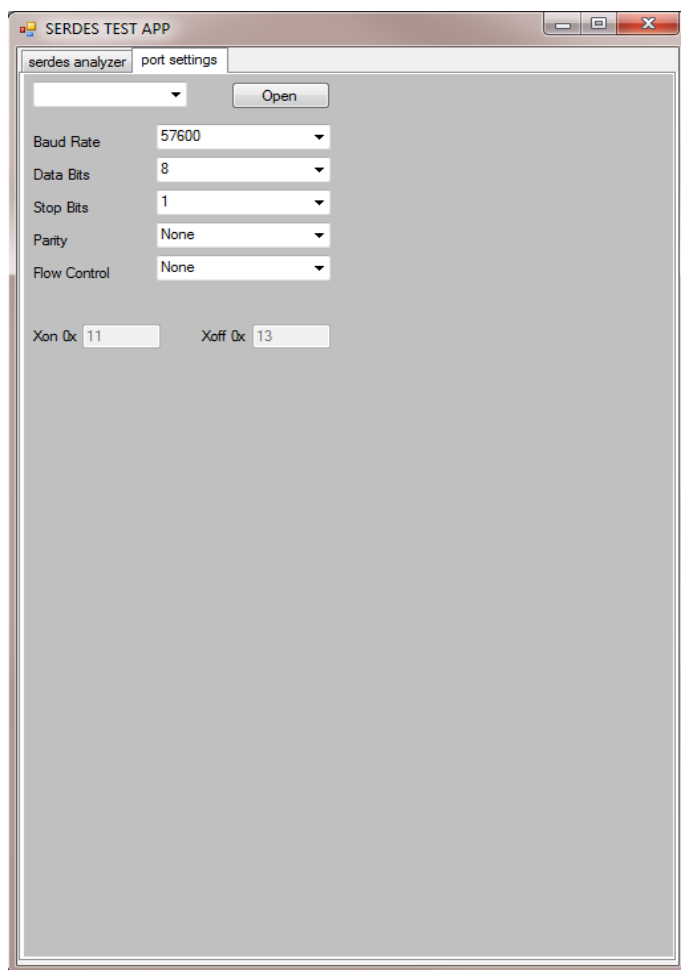

Figure 21 Port Settings Tab
5. Click the **port settings** tab on the SERDES TEST APP window. Figure 21 shows the **port settings** tab.